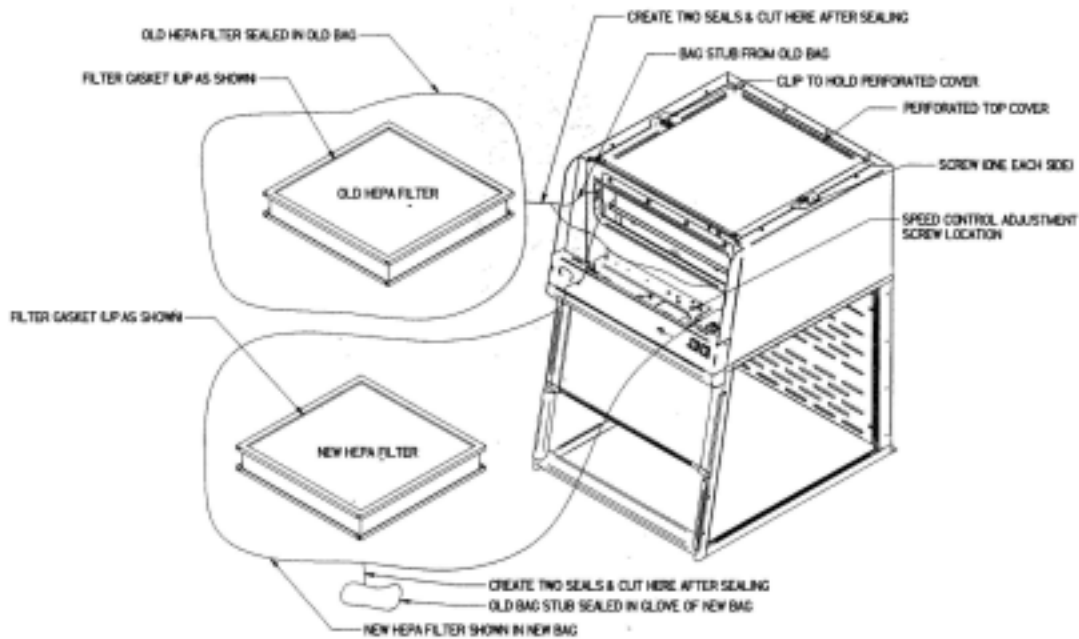

Figure 6-1
The XPert enclosures include a true bag-in/bag-out filter disposal system for safely removing the HEPA filter and protect the worker from toxic powders and particulates. See Figures 6-1 for the Bag-In/Bag-Out Procedure. For your safety, wear appropriate personal protective equipment during the change of HEPA filters. If working with biohazardous materials, use the decontamination procedure outlined in Chapter 6. (Consult your Safety Officer before performing filter changes).
After installing the new HEPA filter, the HEPA filter should be leak checked. This test is performed to determine the integrity of the HEPA filter, the filter housing, and the filter mounting frames. Leak testing is to be done by a qualified technician with calibrated equipment. Remove the top perforated exhaust cover by using a Phillips screwdriver to unfasten the (2) screws used to secure (2) clips. See Figure 6-1. The filter passes the leak test at .01% or better. Reference Leak Testing and Photometer scanning from the Institute of Environmental Services (IES-RP-CC001.3)
1. Remove the front panel by loosening the (2) Phillips screws on top that secure the front panel.
2. The speed control is located on the electrical subassembly located behind the switched control panel and below the front panel. See Figure 6-1.